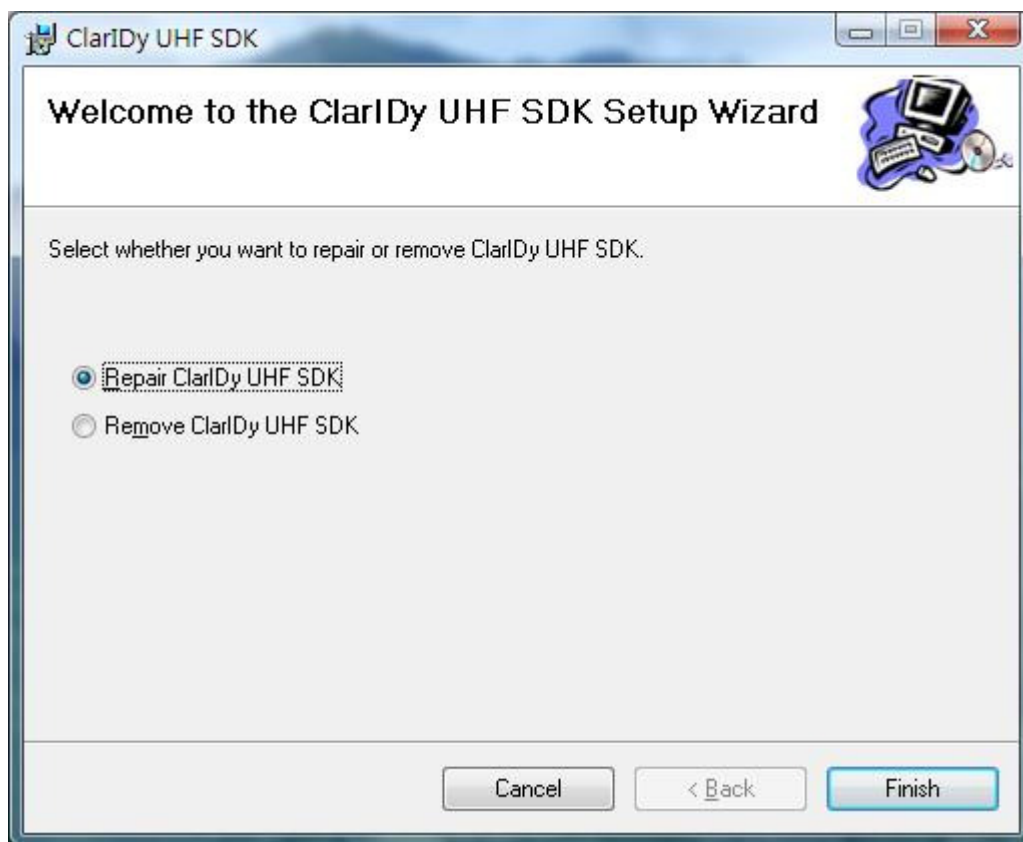

Figure 44
2. Select "Remove ClarIDy UHF Demo", as figure 44.